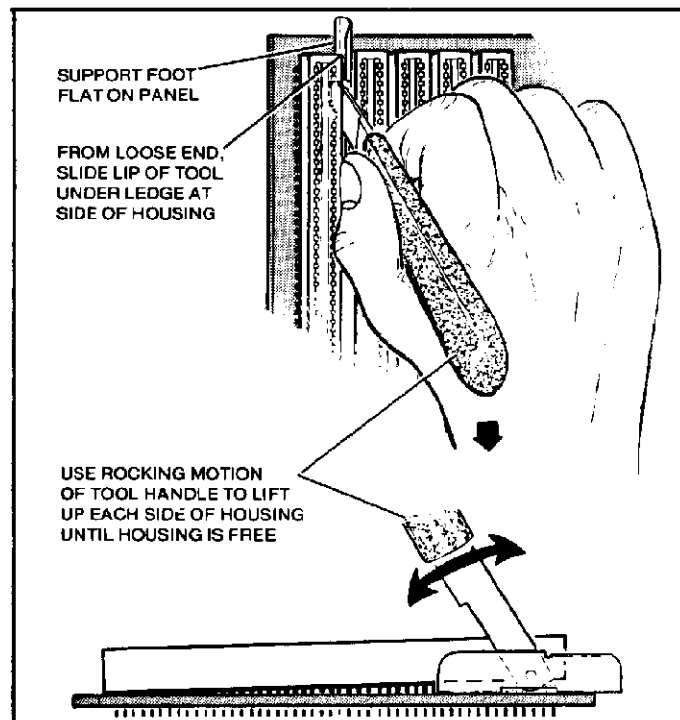

Figure 3
- of tool under ledge at side of loose housing, as shown in Figure 3.